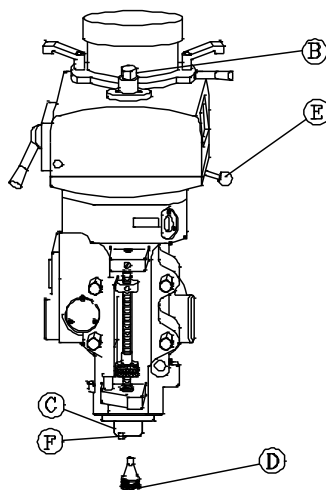

Fig. 6-3
6.1.3 chucking of tool shank and dismantling (Fig.6-3)